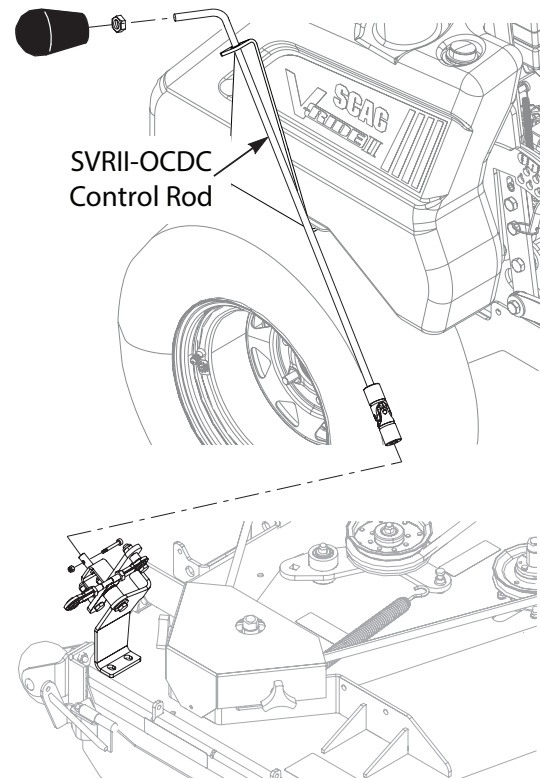

Figure 3-56. OCDC Control Lever Installation
- Install the OCDC control rod through the lever support bracket and attach to the OCDC pivot bracket. Secure the OCDC control rod to the pivot bracket using one (1) #8-32 x 1-1/4" screw and one (1) #8-32 elastic stop nut. See Figure 3-56. Tighten the hardware.
- Install the jam nut and the OCDC handle knob to the control rod. See Figure 3-56. Tighten the jam nut.